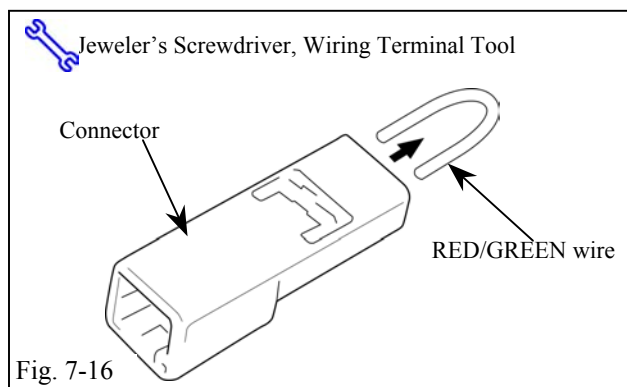

Fig. 7-16
- (q) Using a small jeweler's screwdriver, lift the terminal retainer on the back of the short cut connector. (Fig. 7-16)
- (1) Do not pull out the retainer.
- (r) Using a pick (or wiring terminal tool [PPO]), release and pull out the RED/GREEN wire. (Fig. 7-16)
- (1) Discard the GREEN/RED wire.
- (2) Do not discard the empty 2P connector.